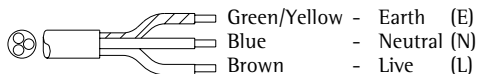

fig. 5
- (fig.5) In case of 220V-240V 1 phase with fitting connection.
- (fig.5) In case of 220V-240V 1 phase (3-core cable).
The following remarks apply to figure 5:
The 3 core main cable (fig. 5) has the following wiring code: